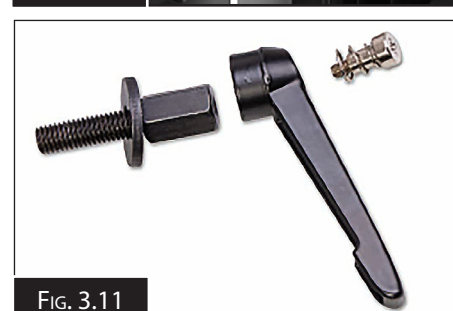

FIG. 3.11
5. Replace the handle and screw including the spring. (Fig.3.11) and secure in place with a Phillips screwdriver Repeat for the second handle clamp.